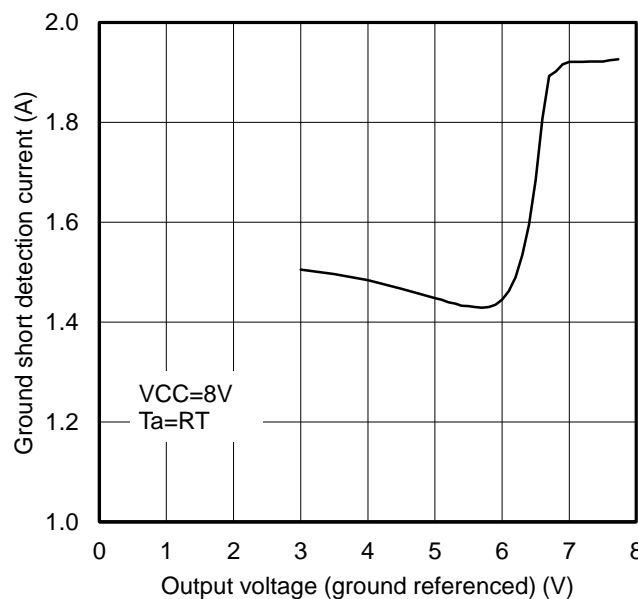

Figure 25. Output voltage vs Ground short detection current
• Ground-fault occurs when SOURCE-side POWER MOS is ON, and the ground-fault protection is performed if ground-fault current is detected. Here, the output is OFF-latched. Note that the ground-fault detection current is dependent on the output voltage. See Figure 25.